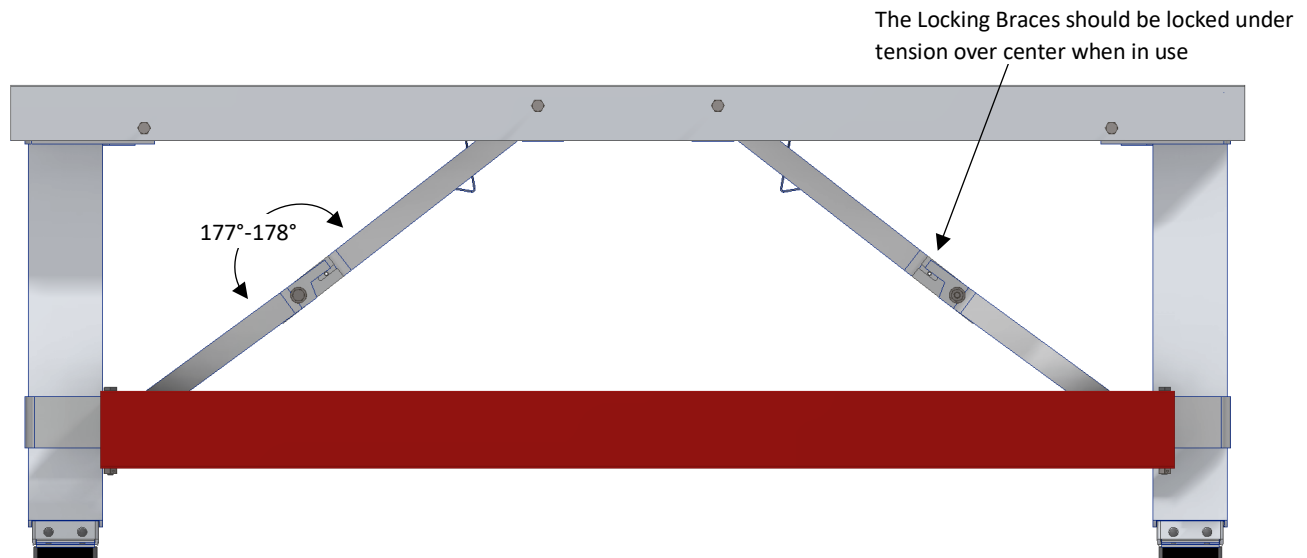

Figure 1
**WARNING:** THE LOCKING BRACE ASSEMBLIES ON THE WAL-BOARD® ALUMINUM FOLDING BENCH MUST BE FULLY ENGAGED AND LOCKED OVER CENTER (SEE FIGURE 1) BEFORE ATTEMPTING TO USE THE WAL-BOARD® ALUMINUM FOLDING BENCH. FAILURE TO ENSURE THE LOCKING BRACE ASSEMBLIES ARE FULLY ENGAGED AND LOCKED OVER CENTER BEFORE ATTEMPTING TO USE THE WAL-BOARD® ALUMINUM FOLDING BENCH WILL ALLOW THE WAL-BOARD® ALUMINUM FOLDING BENCH TO COLLAPSE CAUSING SERIOUS INJURY OR DEATH.
**WARNING:** AFTER REPLACEMENT OF THE LOCKING BRACE ASSEMBLY(S) MUST BE ADJUSTED BEFORE USING THE WAL-BOARD® ALUMINUM FOLDING BENCH. FAILURE TO ADJUST LOCKING BRACE ASSEMBLY(S) PRIOR TO USING THE WAL-BOARD® ALUMINUM FOLDING BENCH COULD RESULT IN SERIOUS INJURY OR DEATH.